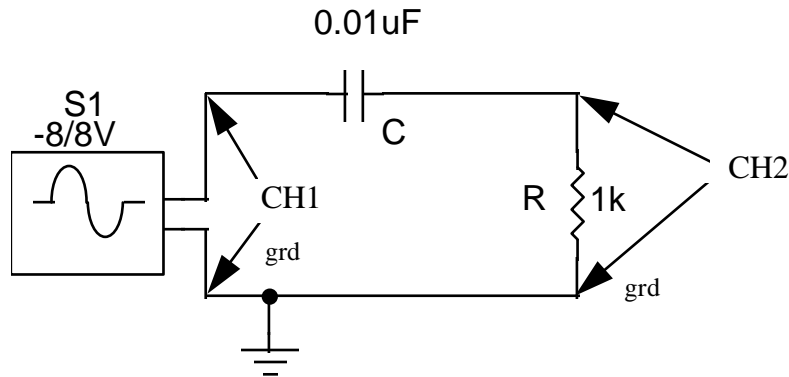

Figure 2. RC Series Impedance Test Setup 2.
- 3.) Construct the circuit shown in Figure 2. This can be done by reversing the ground and positive leads of the signal generator and the scope. The scope will now measure the voltage across the resistor with respect to ground. Since the resistor introduces no phase shift between the voltage and current in the circuit, this voltage wave will have the same phase relationship to the source voltage as the circuit current. The phase shift can be measured using the scope by determining the time difference between the source voltage and the resistor voltage. Use the positive going zero crossings of the sine waves as the reference points. The phase shift can then be computed from the following formula: